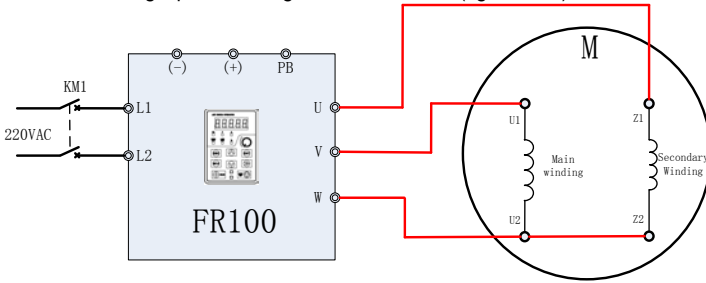

Fig. 6-18
- Inverter connect to single phase:Wiring of FR100 forward (figure 6-18)